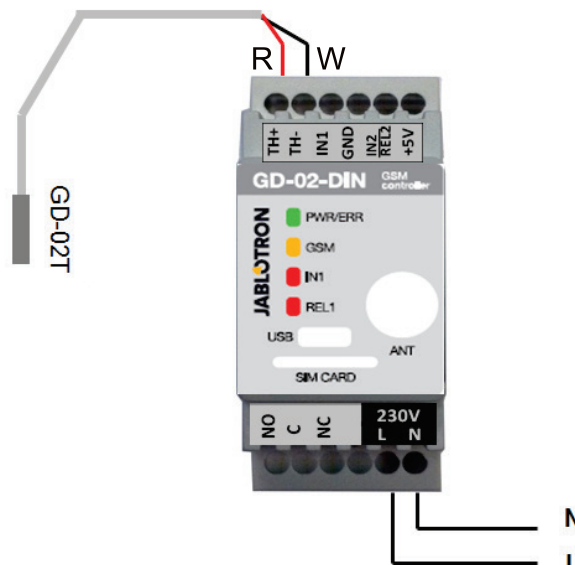

Figure 4: Measuring the temperature
- Mind the correct polarity when the digital thermo sensor is connected (red wire =TH+, white wire =TH-). See figure 4.